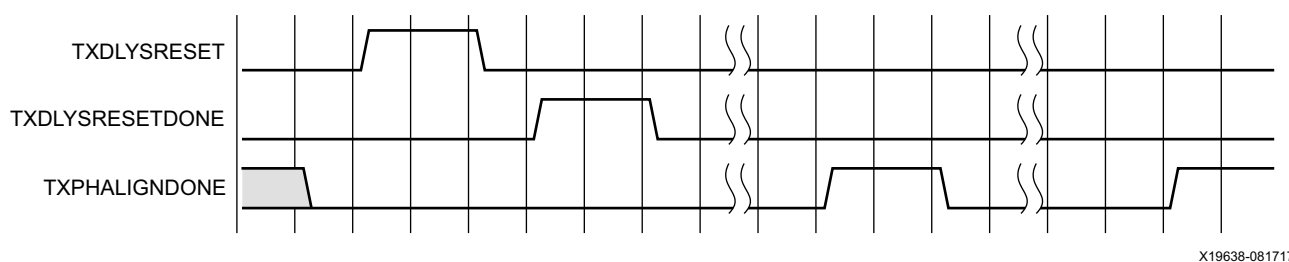

Figure 3-19: TX Buffer Bypass—Single-Lane Auto Mode
Figure 3-19 shows the required steps to perform the auto TX phase alignment and use the TX delay alignment to adjust TXUSRCLK to compensate for temperature and voltage variations.
Notes relevant to Figure 3-19:
1. The sequence of events in Figure 3-19 is not drawn to scale.
5. An assertion/deassertion of GTTXRESET is required if TXPHALIGNDONE does not follow the sequence shown in Figure 3-19.